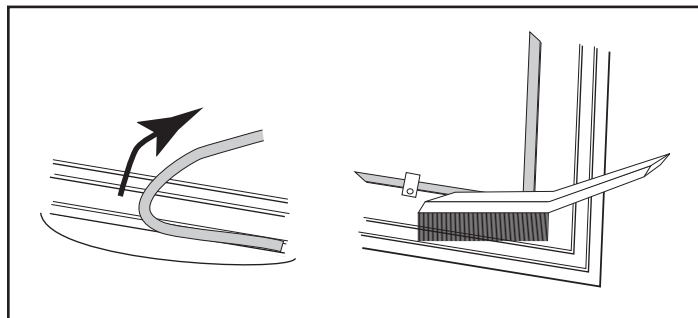

Figure 3.4 - Remove gasket then clean channel with wire brush.
1. Remove the existing gasket by grasping an end and pulling firmly. (Figure 3.4)
2. Use a wire brush or the tip of a screwdriver to clean the channel of any remaining cement or bits of gasket. Remove stubborn deposits of cement with a cold chisel if necessary. (Figure 3.4)